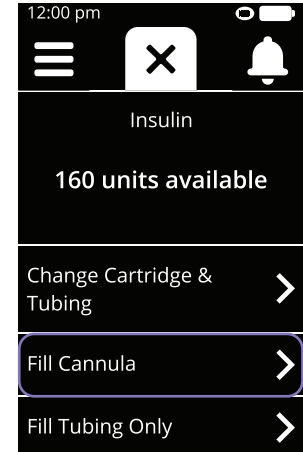

Figure 75
e. Tap **Fill Cannula** (see Figure 75).